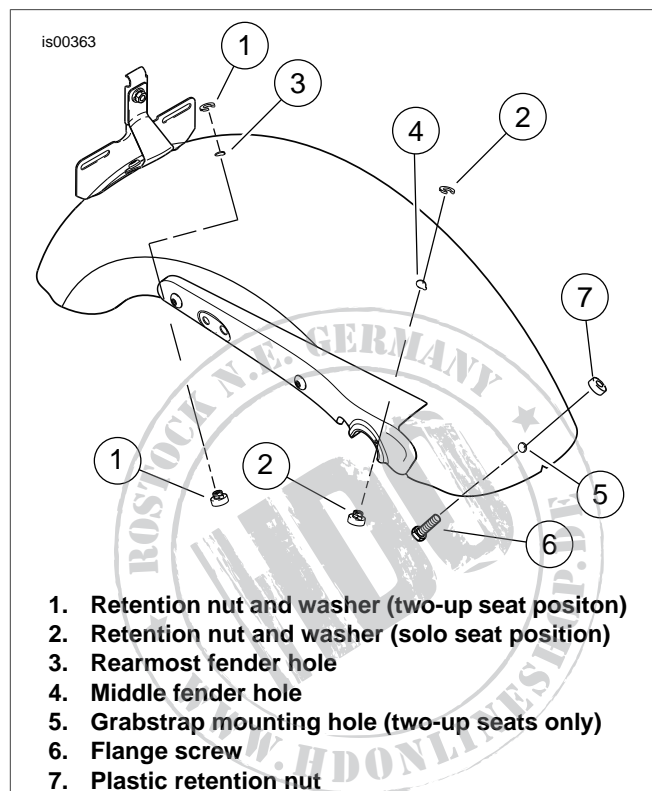

Figure 1. Retention Nut Location
- See Figure 1. A retention nut and washer must be installed in the rearmost fender hole (3) and the middle fender hole (4). If these are not installed, follow Steps a and b:
- With the rib on the retention nut seated into the notch in the appropriate fender hole (see Figure 1), slide the retention washer (2) into place from the rear. This will lock the retention nut in place. Remove the cable strap.